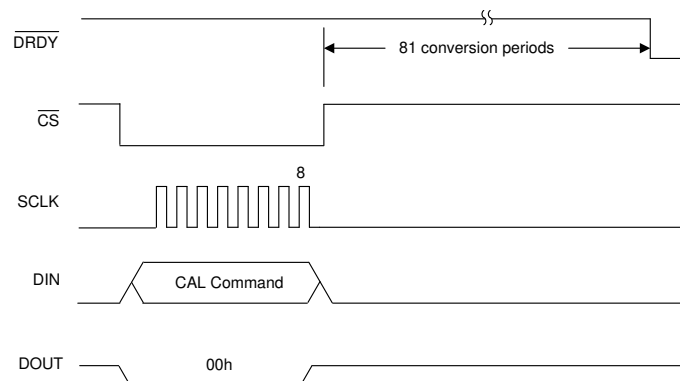

Figure 8-21. Calibration Command
- a. OFSCAL command. After the command is sent, $\overline{\text{DRDY}}$ is driven low 81 conversion periods later to indicate calibration is complete. The OFFSET register is updated with the new calibration value. As shown in Figure 8-21, the first data output uses the new OFFSET value.
- a. GANCAL command. Apply a positive dc full-scale calibration voltage. After the command is sent, $\overline{\text{DRDY}}$ is driven low 81 conversion periods later to indicate calibration is complete. The ADC calculates GAIN such that the full-scale code is equal to the applied calibration signal. As shown in Figure 8-21, the first data output uses the new GAIN value.